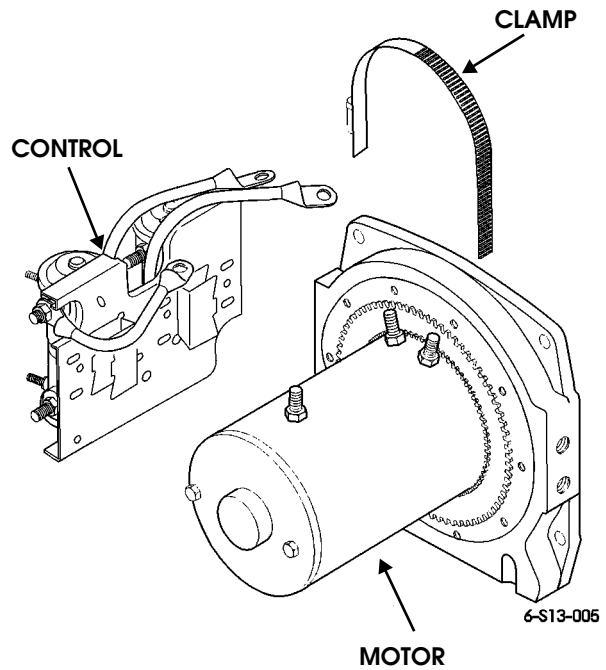

Figure 13-7: Control Unit
3. Loosen clamp and remove control from motor (Figure 13-7).